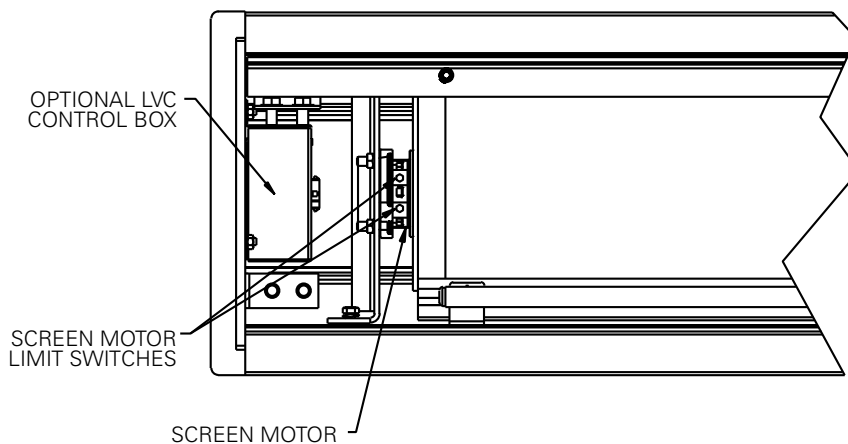

FIGURE 2
9. Carefully remove tape strips securing picture surface around roller. Slat should move freely (Fig. 2). (Only if the roller assembly is pre installed.)
2. When the screen stops, turn the white "**down**" limit knob (Fig. 2) one-quarter turn counterclockwise. Test by raising picture surface approximately two feet, then lower again. Repeat until desired picture surface position is attained.
3. Turn the white "**down**" limit switch (Fig. 2) one-quarter turn clockwise. Test by raising picture surface approximately two feet, then lower again. Repeat until desired picture surface position is attained.